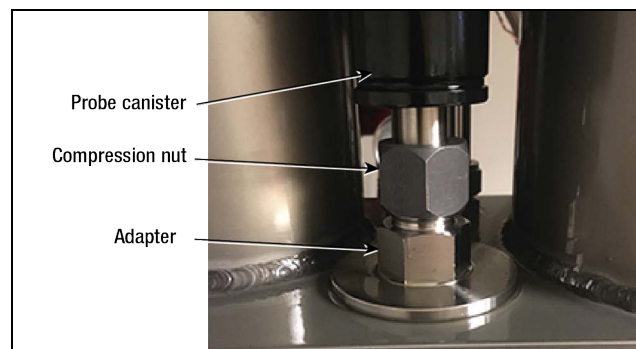

Figure 2. FC Opening for Mag Probe
5. Using a wrench, loosen the 1-1/4" Adapter (see Figure 2), then carefully lift the old Mag Probe and float assembly out of the Fuel Conditioner opening.